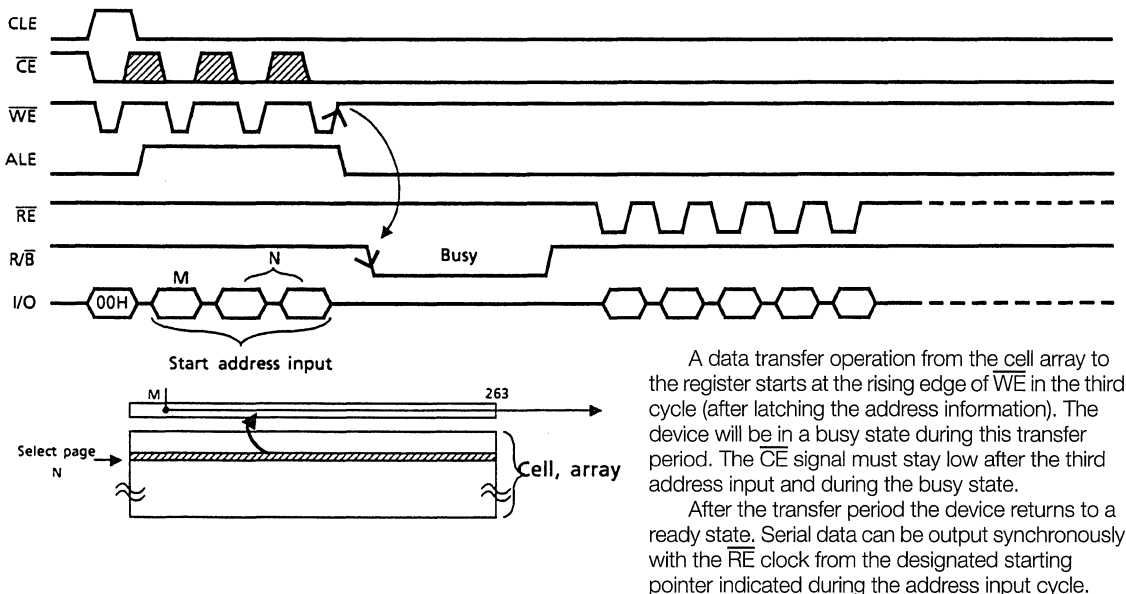

Figure 4. Read mode (1) operation
Read mode (1) is set by issuing a "00H" command to the command register. Refer to Figure 4 below for timing details and block diagram.